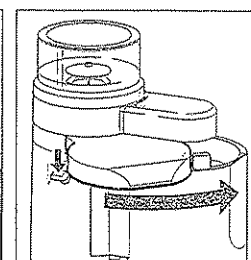

Figure 14
- Press the release lever (Figure 1C) to return the water supply to the brewing position (Figure 14).